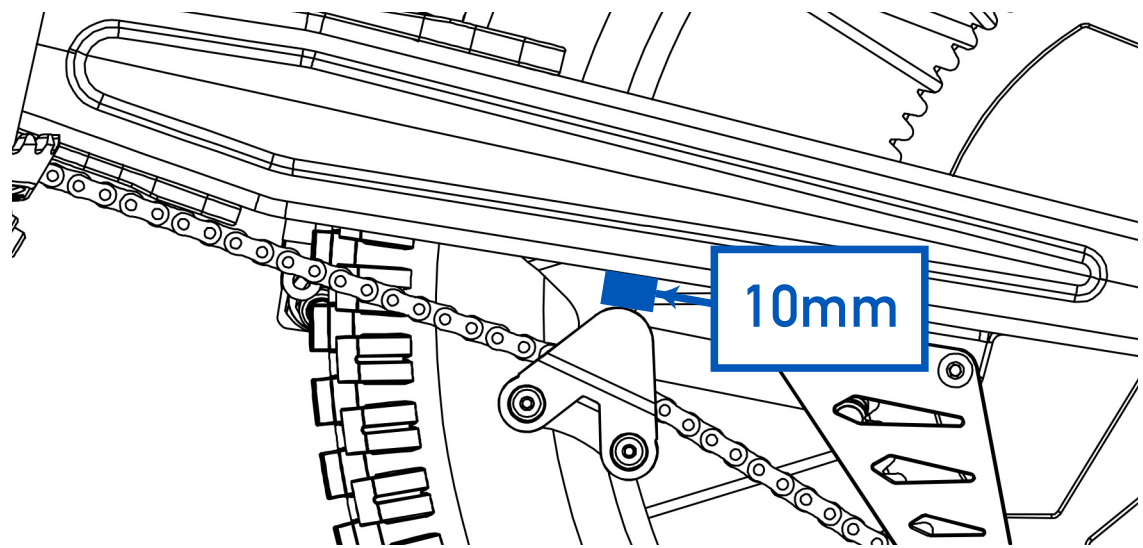

Fig. 12
- Check the chain slack, so that the chain has a play as indicated in this manual, 10 mm (Fig. 12). To check this, you must turn the wheel and check the slack several times, always measuring from the same point. The chain must not have too much play or too much stiffness.
- 4- Once half of the travel has been exceeded, the eccentric must be turned to adopt the position that guarantees an optimal adjustment up to the maximum travel limit, as shown in Fig. 12.